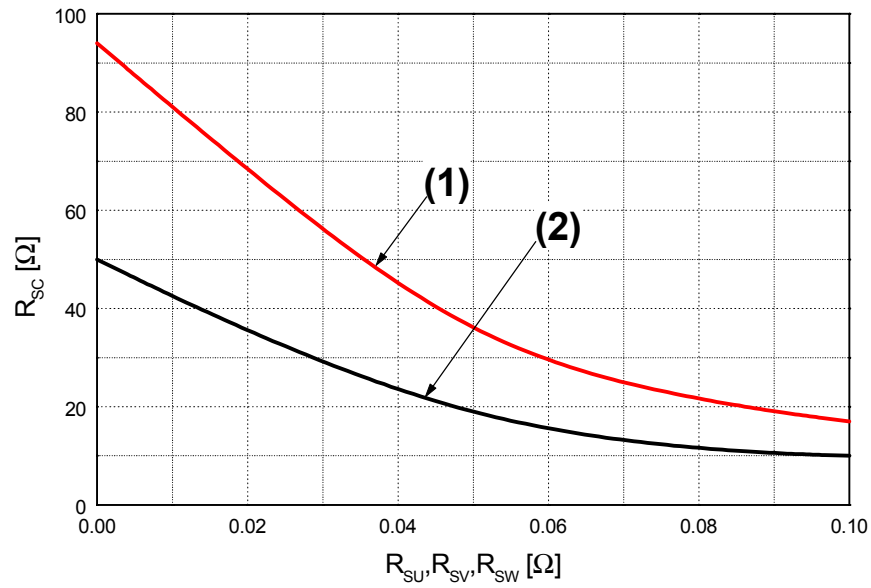

Fig. 6. R_{sc} Variation by change of Shunt Resistors (R_{su}, R_{sv}, R_{sw}) for Short-Circuit Protection
5. Short-circuit current protection is functioning only at the low-sides. It would be recommended that the value of the external sensing resistor (R_{SC}) should be selected around 50 Ω in order to make the SC trip-level of about 22.5A at the shunt resistors (R_{SU}, R_{SV}, R_{SW}) of 0 Ω . For the detailed information about the relationship between the external sensing resistor (R_{SC}) and the shunt resistors (R_{SU}, R_{SV}, R_{SW}), please see Fig. 6.